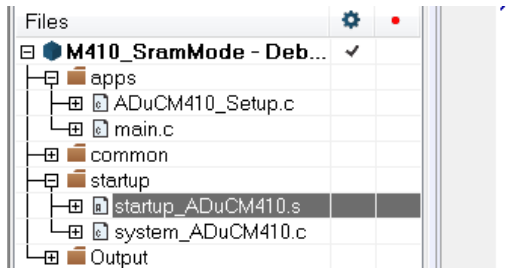

Figure 31. IAR SRAM Setup **startup_ADuCM410.s** SRAM Modes
1. After the example program is opened from the IAR IDE, ensure that the macros shown in Figure 30 are set up and commented in to select the SRAM mode the linker file is operating in. The **M410_SramMode** example code (see Figure 31) uses a linker file, the **ADuCM410flash_SramMode.icf** file (see Figure 32) placed in the **IAR** folder within the **SramMode** example program.
5. Configure the macros shown in Figure 30, Figure 31, and Figure 32 to run the SRAM modes. Ensure the **main.c**, **startup_ADuCM410.s**, and **ADuCM410flash_SramMode.icf** macros are selected with the correct SRAM mode.
6. Users can select the desired **USER_SRAM_MODE** macro as shown in Figure 31 and Figure 32. Users can also select the **TEST_SRAM_MODE** macro as shown in Figure 30. By default, the example program is running in **TEST_SRAM_MODE 0**. Ensure the **main.c** macro, which runs the debug mode, shows that the instruction SRAM (ISRAM) is placed in debug mode. If the ISRAM is in debug mode, the **Disassembly** window from the **View** menu bar displays the **isramTestFunc** with the 0x10000000 address (see Figure 33).